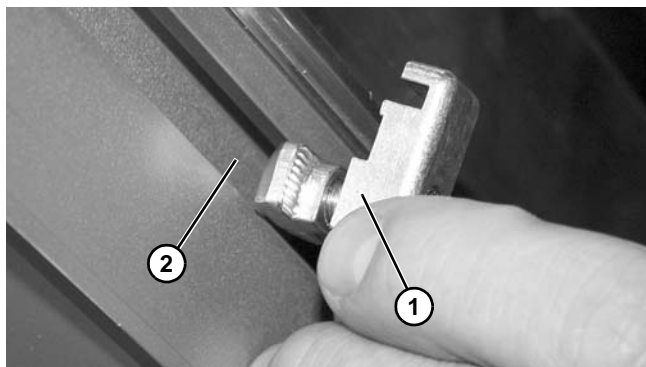

Figure 33
1. Install guide clip assembly (**Figure 33, item 1**) into conveyor t-slot (**Figure 33, item 2**) as shown.